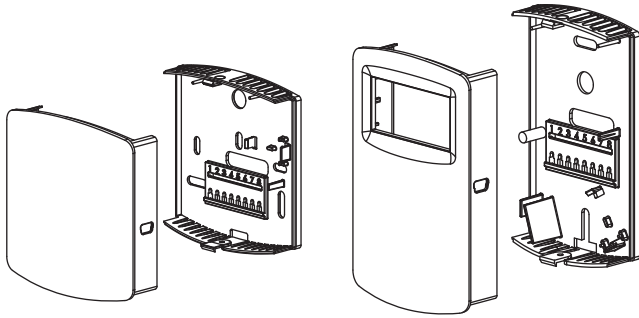
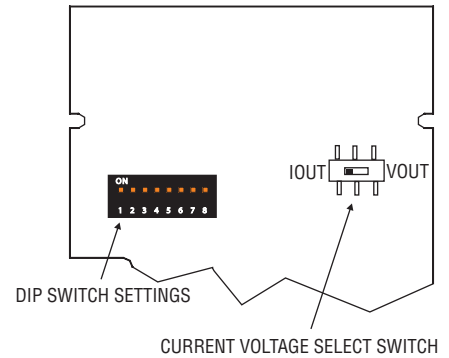

Figure 1
Figure 4
1. Push tab on top and bottom of the back plate and lift the cover from the back plate. (See Figure 1).
Prior to wiring, verify that the Current/Voltage select switch shown in Figure 4 is set to current or voltage as desired. Refer to "Setting the Current/Voltage Select Switch".
Remove the cover of the unit as shown in Figure 1. The Current/Voltage select switch is located on the back of the circuit board. Set the switch "IOUT" for current, "VOUT" for voltage.
To access the DIP SWITCH, remove the cover of the unit as shown in Figure 1. The DIP SWITCH is located on the back of the circuit board as shown in Figure 4.
1. Remove cover as shown in Figure 1.